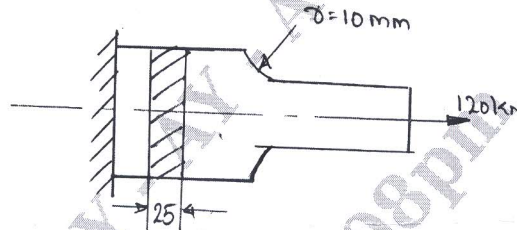

Fig.Q1(c)
c. Find the value of the maximum stress induced on the fillet if the stress concentration factor for the filleted flat box shown in Fig.Q1(c) having a  $\frac{D}{d}$  ratio of 1.2. Also determine the factor of safety if the flat box is made of steel having yield stress of 640 MPa. Thickness of the box is 25 mm.